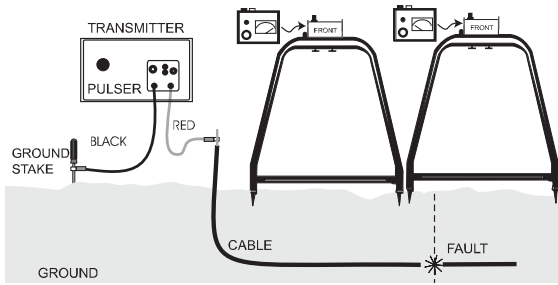
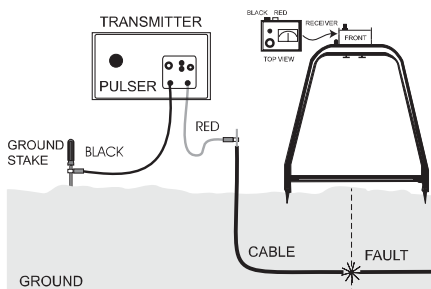

Figure 3.
Figure 4. Nulling Receiver – First Time
5. Turn the receiver on. Verify the battery condition by pressing the battery test button and observing the meter. Insert the "A" Frame probes into the earth. (See Figure 3.) If all probes are making good ground connection, the receiver will kick toward the fault (away from the transmitter) in step with the transmitter beeper.
To determine the exact location, move the “A” Frame in the direction of the black kick until the kick reverses to red. (See Figure 3.) Now move the “A” Frame in small increments back to the red kick until it reverses to a black kick or it nulls. (See Figure 4.)
Note: Receiver will null when probes evenly straddle the fault. Mark this spot. (See Figures 4 and 5.)